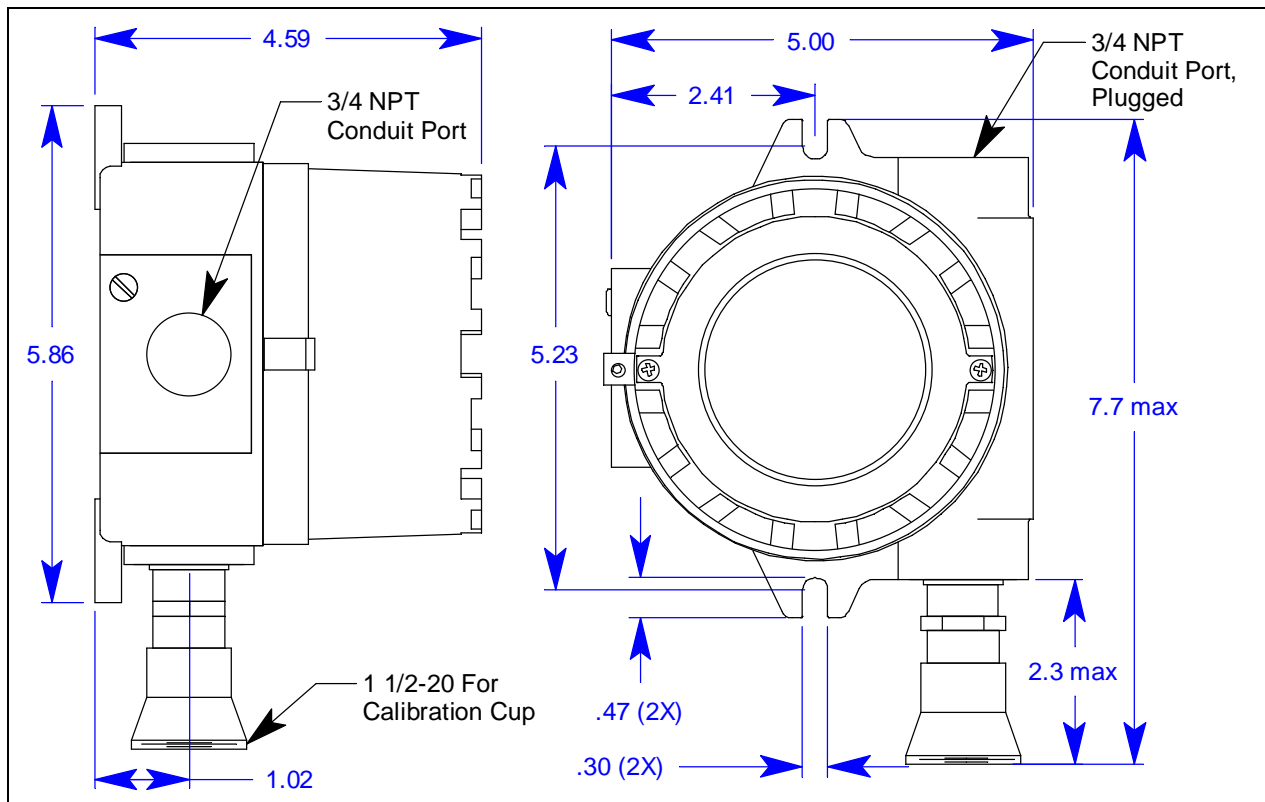
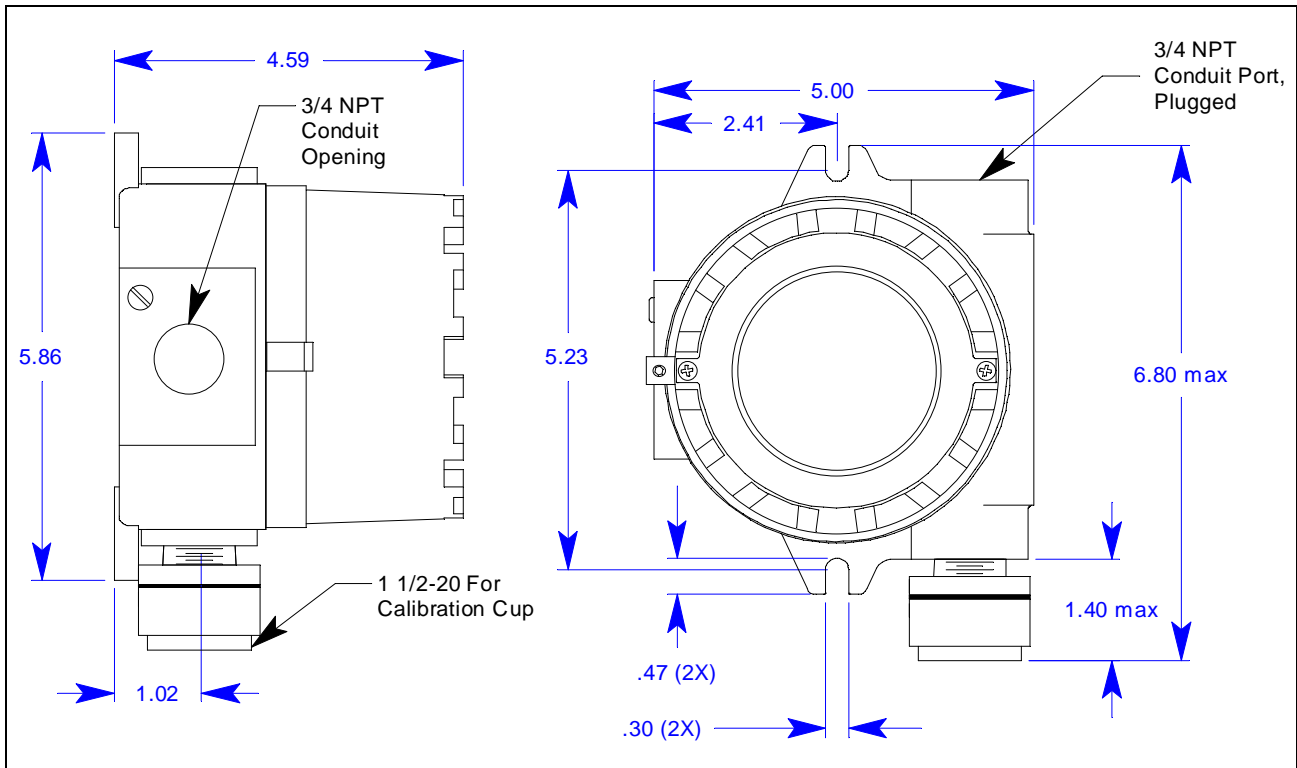

Figure 14: Outline & Mounting Dimensions, Catalytic LEL and ppm, UL Version
Figure 21: Outline & Mounting Dimensions, CT-7 Series
2. At the monitoring site, use #10 screws through the junction box's two mounting holes to secure the junction box to a vertical surface. Figure 14 - Figure 21 show the outline and mounting dimensions for each version of the M2A. Mount the M2A with the detector facing down as shown in the following figures.